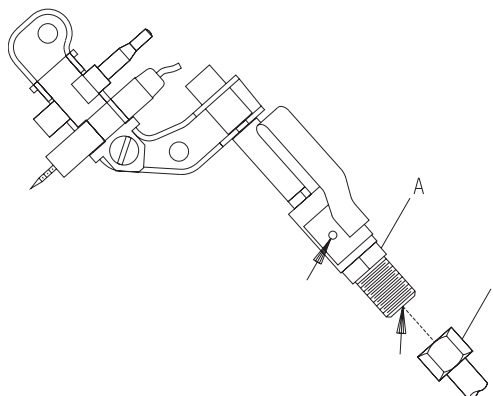

Figure 18
5. Disconnect pilot tubing from pilot (see Figure 18, Page 15). Grasp nut A with a wrench when removing nut B with a second wrench.